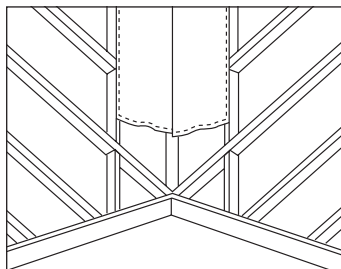

Fig. 2 – Butt joint valley boards over supporting rafters
- 2 Continuous overlaid boards should be minimum of 6mm thick plywood and only butt jointed over a supporting rafter (Fig. 2).